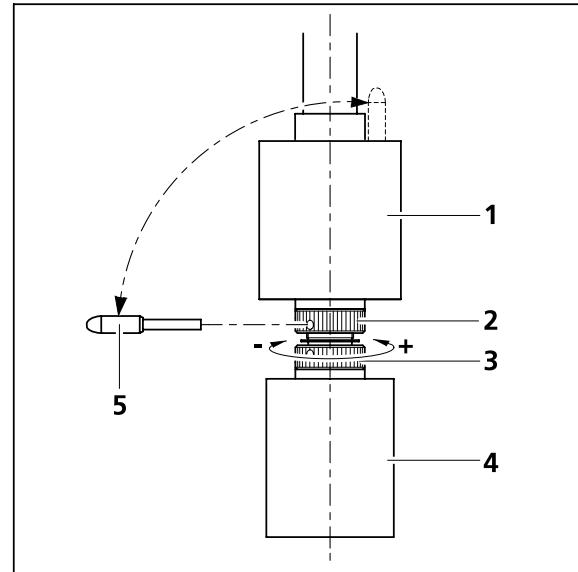

Fig. 3-14 Adjusting the frictional momentum
The drive length of the X- and Y-drive can be adjusted by an axial shift of the gear knob (Fig. 3-14/4 and 1) within a range of approx. 15 mm.
- Slide the gear knob for the X-adjustment (Fig. 3-14/4) all the way down.
- Take the enclosed adjustment pin (Fig. 3-14/5) out of the gear knob for the Y-adjustment (Fig. 3-14/1) and stick it into one of the holes on the lower hole nut (Fig. 3-14/3).
- Hold the gear knob for the X- adjustment (Fig. 3-14/4) and turn the hole nut with the adjustment pin clockwise (smaller friction momentum: -) or counter clockwise (larger friction momentum: +) until you reach the desired friction degree (see Fig. 3-14).
- Slide the gear knob for the Y-adjustment (Fig. 3-14/1) all the way up.
- Stick the enclosed adjustment pin (Fig. 3-14/5) into the hole on the upper hole nut (Fig. 3-14/2).
- Hold the gear knob for the Y-adjustment (Fig. 3-14/1) and turn the hole nut with the adjustment pin clockwise (smaller friction momentum: -) or counter clockwise (larger friction momentum: +) until you reach the desired friction degree.
- Replace the adjustment pin in the gear knob for the Y-adjustment (Fig. 3-14/1).